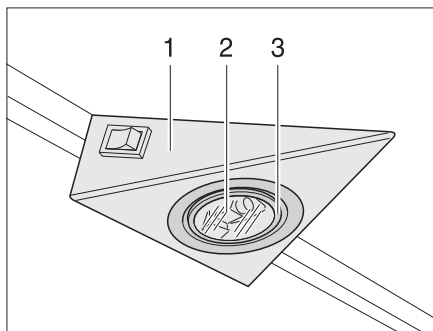
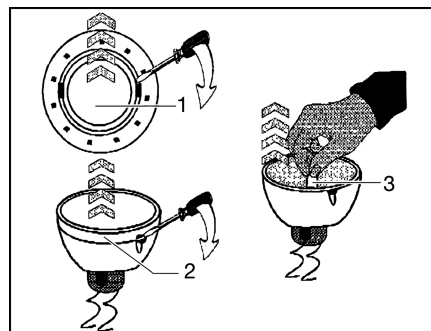

Fig. 179 Recessed halogen light
Fig. 180 Changing the halogen bulb
The recessed halogen light is installed flush in a housing (Bild 179,1).
- Use a suitable tool (e.g. screwdriver) to remove the inner cover ring (Bild 179,3 or Bild 180,1) from the housing.
- Remove the cover ring with the glass (Bild 179,2).
- Remove the halogen bulb (Bild 180,2).